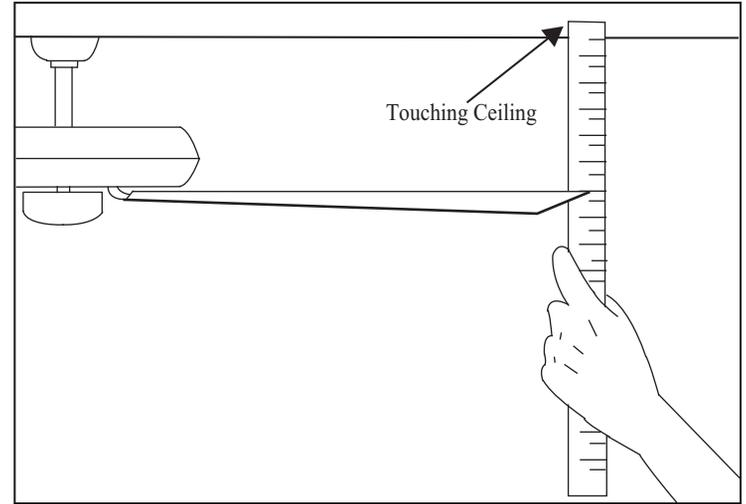

Figure 17
2. Most fan wobble problems are caused when blade levels are unequal. Check this level by selecting a point on the ceiling above the tip of one of the blades. Measure from a point on the center of each blade to the point on the ceiling. Measure this distance as shown in Figure 17. Rotate the fan until the next blade is positioned for measurement. Repeat for each blade. Measurements deviation should be within $1/8"$. Run the fan for 10 Minutes.